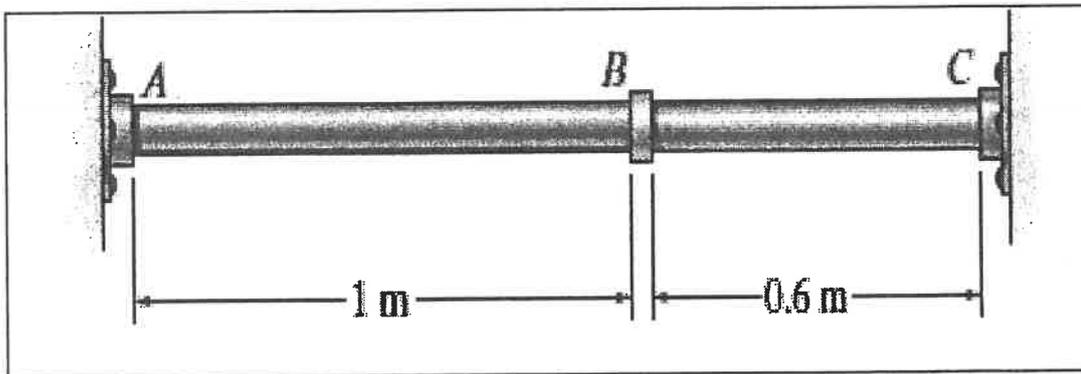

Figure 3
- (a) Figure 3 shows a C83400-red-brass rod AB and a 2014-T6-aluminum rod BC which are joined at the collar B and fixed connected at their ends. The cross-sectional area of each member is 1130 mm^2 . If there is no load in the members when $T_1 = 10 \text{ }^\circ\text{C}$, determine the following; (Refer to Appendix B)